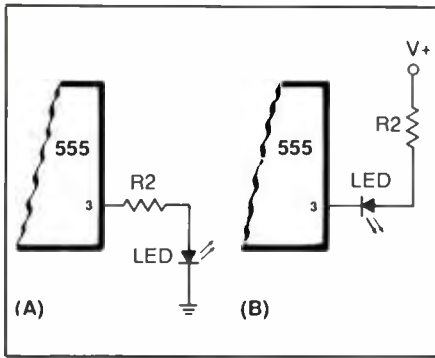

Fig. 7. Light-emitting diode load used with a 555 timer in (A) current-source and (B) current-sink modes.
Figure 7 shows how light-emitting diodes can be used as the load for the 555. Although LEDs are used here, almost any load that draws less than 200 milliamperes could be used instead. The usefulness of the 555 is demonstrated by these circuits. There are times when you might want a LED indication when the output of the 555 is low, other times when it is high. The 555 can accommodate either need without requiring an intervening open-collector inverter stage.
In Fig. 7(A), the LED, wired between pin 3 and ground, requires the 555 to act as a current source. When the output is low, there is no potential across the LED, no current flows, and the LED is off. When the
In Fig. 7(B) the opposite connection is shown. Here, the LED is wired between the OUTPUT terminal and V+, causing the output of the 555 to sink current. When the output is low, the cathode end of the LED is essentially grounded through a small resistance, so the LED is turned on. When the output is high, the potential at both ends of the LED is close to V+. Thus, with no differential voltage between cathode and anode, no current flows through the LED and the LED is off.
In both Fig. 7 examples, the resistor in series with the LED limits the current flowing in the LED. For most unmarked LEDs, maximum safe current is 15 mA (0.015 A). Therefore, you should set the value of R2 to a value of (V+)/0.015 or greater.